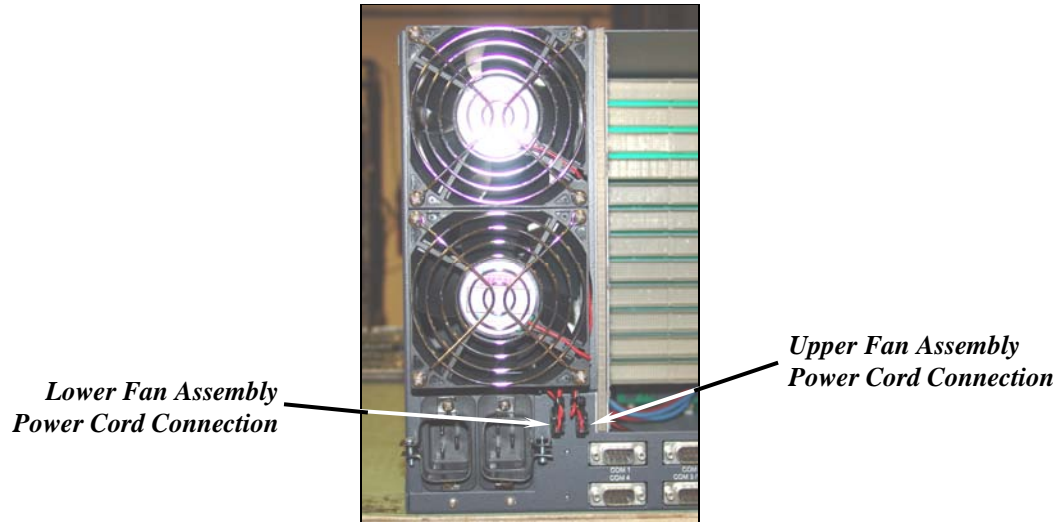

FIGURE 89: 64x64 Fan Assemblies and Associated Power Connections
These switchers are equipped with two, surface-mounted fan assemblies (see Figure 89) that are easily removed from the rear exterior of the chassis.
1. Disconnect the fan power cord (see Figure 89) from the chassis fan power receptacle.